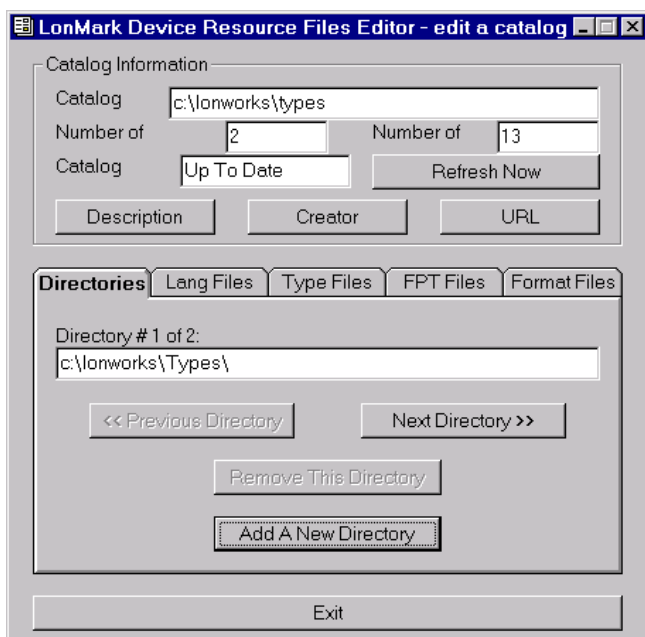

FIGURE G-3. ADDING A DIRECTORY
- d. Select “Add A New Directory” (see Figure G-3).